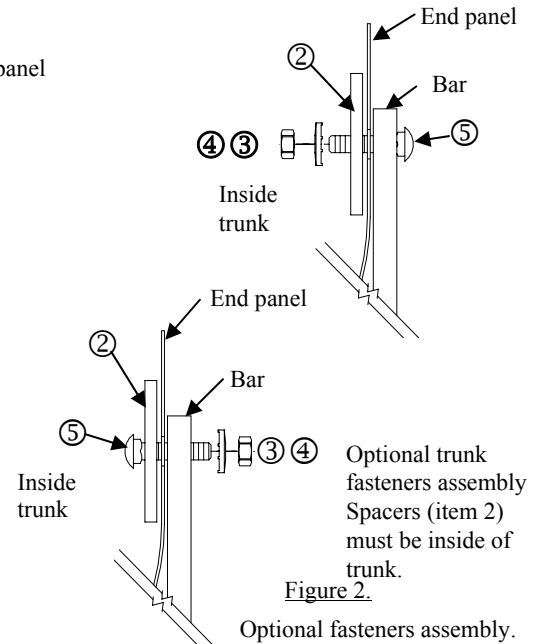

Figure 2.
5. Install fasteners on drivers side. Place spacer (Item 2) inside trunk add sealant around hole. Install fastener as shown in Figure 1 or optional Figure 2. Hand tighten to prevent hitch from moving while installing passenger side.
6. Install fastener on passenger side. Once again adding sealant around hole. Install fasteners as shown in Figure 1 or optional Figure 2 .